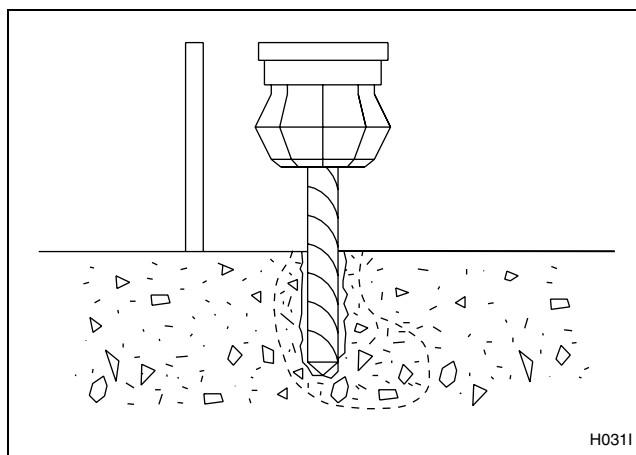

Figure 23
4. Drill and chisel out a conical hole large enough to accept the J-bolt. Refer to *Figure 23*.